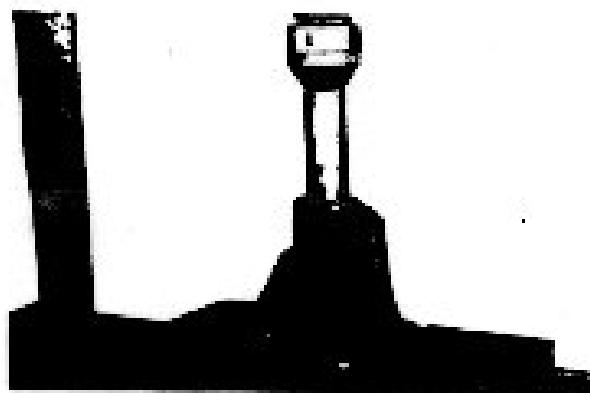

Fig. 4-5.
- 12) Reassembly of the front and rear bearing outer races into the differential carrier necessitates the use of the special tools respectively as shown in the Fig. 4-5 (For front bearing-09913-76010, for rear bearing-09913-85210). When reassembling the outer race into the differential carrier, exercise care to avoid inclination of the outer race in position, or bearing seizure, abnormal noise and abnormal wear will result.